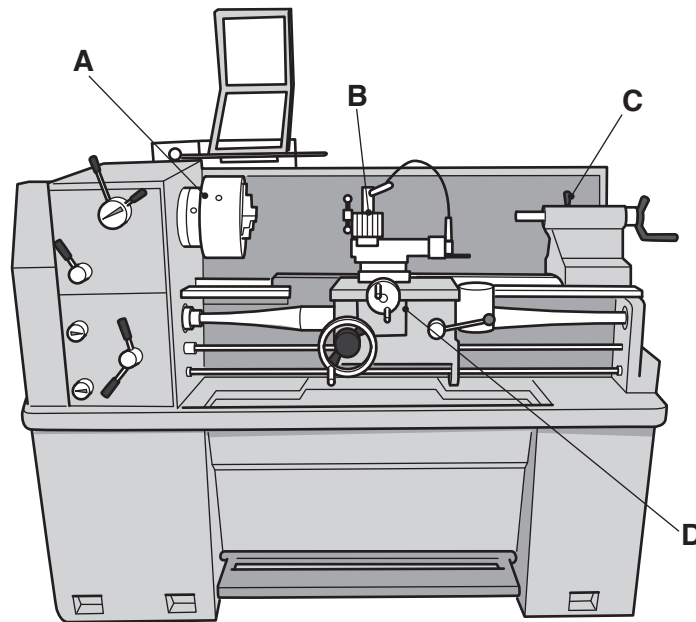

Fig. 7
- (d) Fig. 7 shows a machine used in the workshop to make the handle.
- (i) Name the machine in Fig. 7 and state **three** manufacturing processes the machine can be used for. [4]
- (iii) State **two** possible safety hazards when using the machine shown in Fig. 7 and give **two** suitable safety precautions that should be taken. [4]